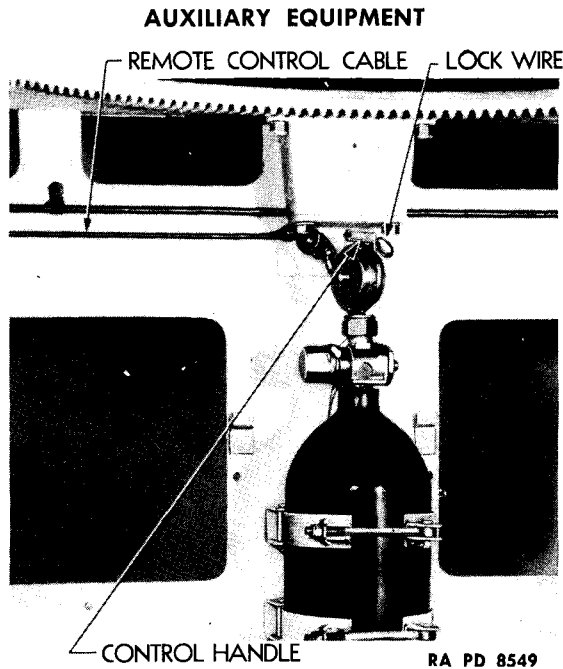

Figure 16 – Fire Extinguisher Controls
(1) Two sizes of carbon dioxide fire extinguishers are carried in each vehicle. A fixed 10-pound unit is clamped in a vertical position on the bulkhead of the fighting compartment (fig. 16). This unit connects to tubes leading to the engine compartment, and is used for extinguishing fires in the engine compartment only. Its controls are accessible from the turret. In addition, a remote control lever on the top of the fighting compartment just ahead of the right sponson permits operation of the fire extinguisher from outside the vehicle.
(2) A 4-pound portable hand-operated extinguisher is strapped in a vertical position behind the transfer unit where it is easily accessible to both the driver and assistant driver.
(3) Inasmuch as the pressure of the carbon dioxide increases with increasing outside temperature, the fire extinguishers are equipped with
(1) The portable extinguisher should be held in the left hand and the hose in the right hand so that the nozzle is at right angles to the cylinder. The discharge should be directed at the base of the flame, not at the center of the flame, with the discharge cone as close to the flame as the operator can safely hold it. Continue the discharge for several seconds after the flames are out to prevent recurrence.
(2) In case of a fire in the engine compartment, the fixed extinguisher is set in operation by breaking lock wire, removing valve locking pin, and pulling control handle forward and down (fig. 16). The fire extinguisher can be set in operation from outside the vehicle by pulling the remote control handle. This floods engine compartment with carbon dioxide gas, and will extinguish a fire with the engines running up to 1,200 revolutions per minute. If conditions permit, however, the engines should be stopped.